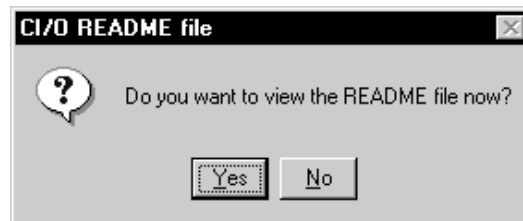

Figure 2-8. CI/O ReadMe file
- 11 Click on Next to begin copying files. When the files are copied, the CI/O ReadMe file appears as shown in Figure 2-8.